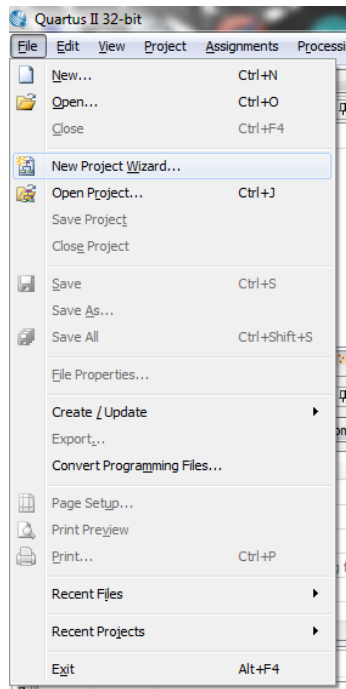

Figure 3: Create a new project menu
1. In order to begin working on your first FPGA project, you must open the program Altera Quartus II. To begin a new project goto **File** → **New Project Wizard** as shown in figure 3